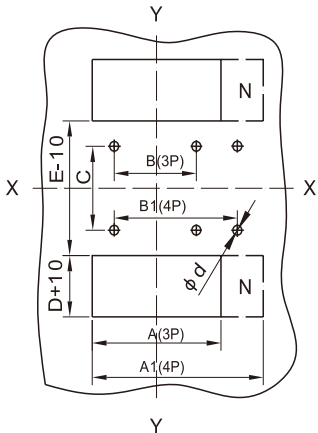

Figure 10 Plug-in rear wiring installation board hole-opening dimensions
(4) See Figure 10 for plug-in rear wiring installation board hole-opening dimensions (X-X, Y-Y are three-pole circuit breaker centers)